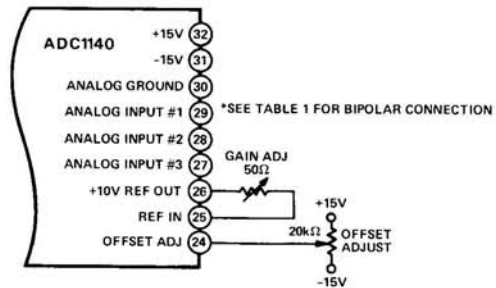

Figure 3. Offset and Gain Calibration
¹ Offset and gain error are adjustable to zero by means of external potentiometers. See Figure 3 for proper connection.
For operation, the only connections to the ADC1140 that are necessary are the power supplies, internal or external reference, input voltage pin programming, convert command and digital output. Refer to Table I for input pin programming and Figure 3 for offset and gain calibration.
*If Internal Reference is used, Pins 25 and 26 must be connected together through a 50kΩ potentiometer or 24.9kΩ fixed resistor (see Figure 3 and the gain calibration section).
Initial offset and gain errors can be adjusted to zero by potentiometers as shown in Figure 3. Proper offset and gain calibration requires great care and the use of an accurate and stable voltage reference. The voltage standard used as a signal source must be very stable. It should be capable of being set to within $1\mu V$ of the desired value at both ends of its range. The potentiometers selected should be of the good quality Cermet type. Multi-turn potentiometers having ten to fifteen turns and $100\text{ppm}/^\circ\text{C}$ temperature coefficients will be adequate. The temperature coefficients contributed by these Cermet potentiometers will be less than $0.1\text{ppm}/^\circ\text{C}$.